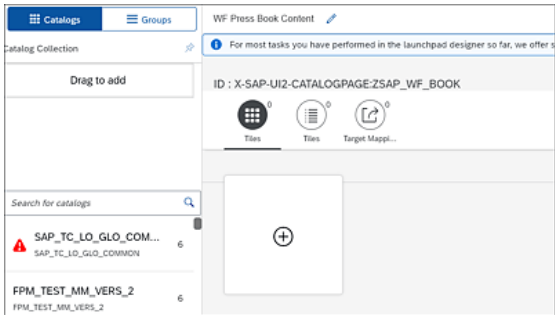

Figure 11.5 Creating the SAP Fiori Scenario Tile
1. Log in to SAP Fiori, and open the relevant catalog, which is shown in Figure 11.5.